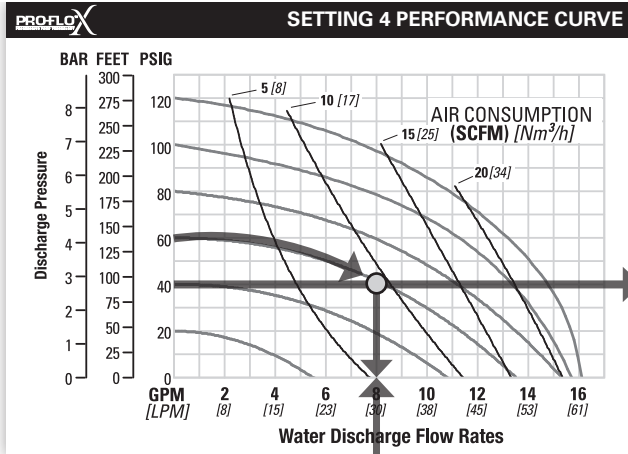

Figure 1
Step 1: Identifying performance at setting 4. Locate the curve that represents the flow rate of the pump with 4.1 bar (60 psig) air inlet pressure. Mark the point where this curve crosses the horizontal line representing 2.8 bar (40 psig) discharge pressure (Figure 1). After locating your performance point on the flow curve, draw a vertical line downward until reaching the bottom scale on the chart. Identify the flow rate (in this case, 8.2 gpm). Observe location of performance point relative to air consumption curves and approximate air consumption value (in this case, 9.8 scfm).